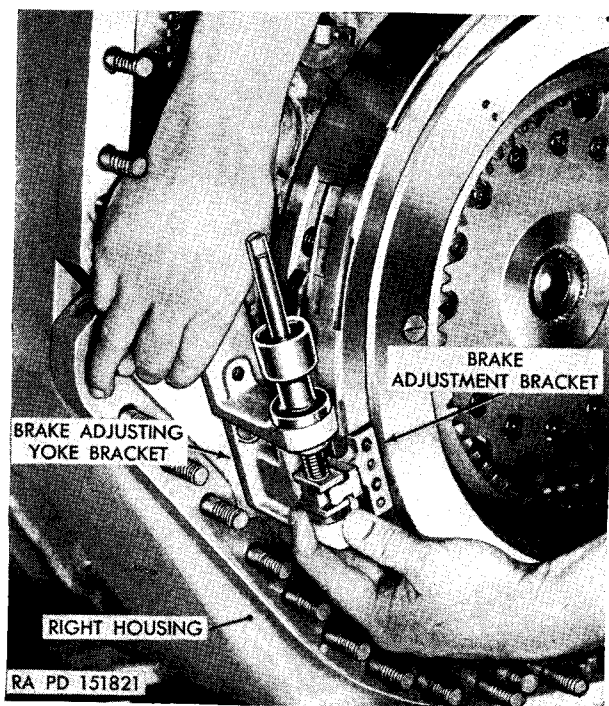

Figure 82. Removing or installing brake-adjustment bracket and yoke.
- (1) Remove two bolts from the brake-adjustment bracket, using a $\frac{5}{16}$ -inch wrench. Remove two bolts from the brake-adjusting-yoke bracket, using a $\frac{1}{2}$ -inch wrench.
- (2) Remove (at the same time) the brake-adjustment bracket and the brake-adjusting-yoke bracket by tapping off two dowel pins (fig. 82).